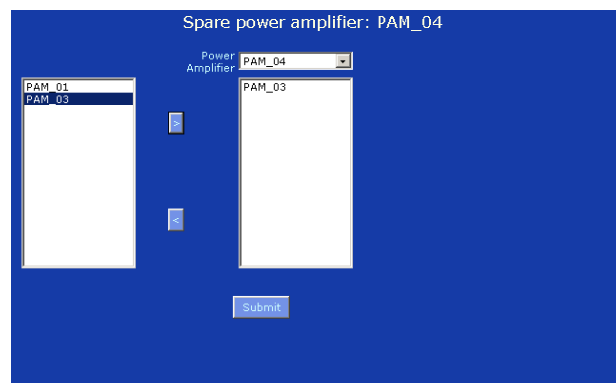

figure 36.18: Sparing, step 3
- 3 Select the main amplifier that must be assigned to the spare amplifier from the left box (see figure 36.18).